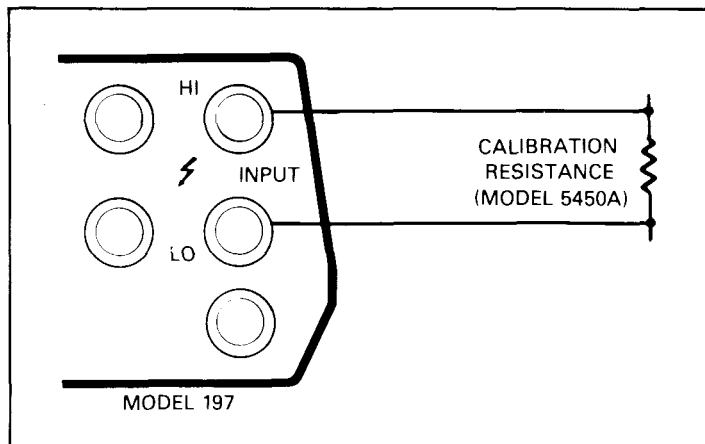

Figure 3-4. Connections for 200k through MΩ Ranges Verification (2-Terminal)
7. Connect a 190k Ω calibration resistor to the instrument as shown in Figure 3-4. Switch the instrument to the 200k Ω range. Verify that the displayed reading is within the limits specified in Table 3-4. Note that the 2-terminal configuration may be used on the 200k Ω and higher ranges.